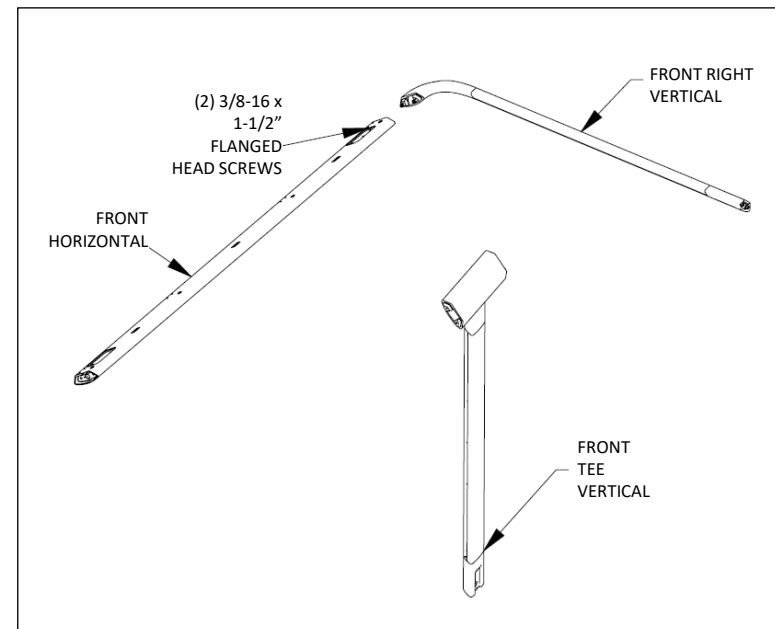

Fig. C1 – frame assembly, set first vertical
3. Using flange head screws, attach horizontal beam to vertical. See Fig. C1. Do not overtighten.